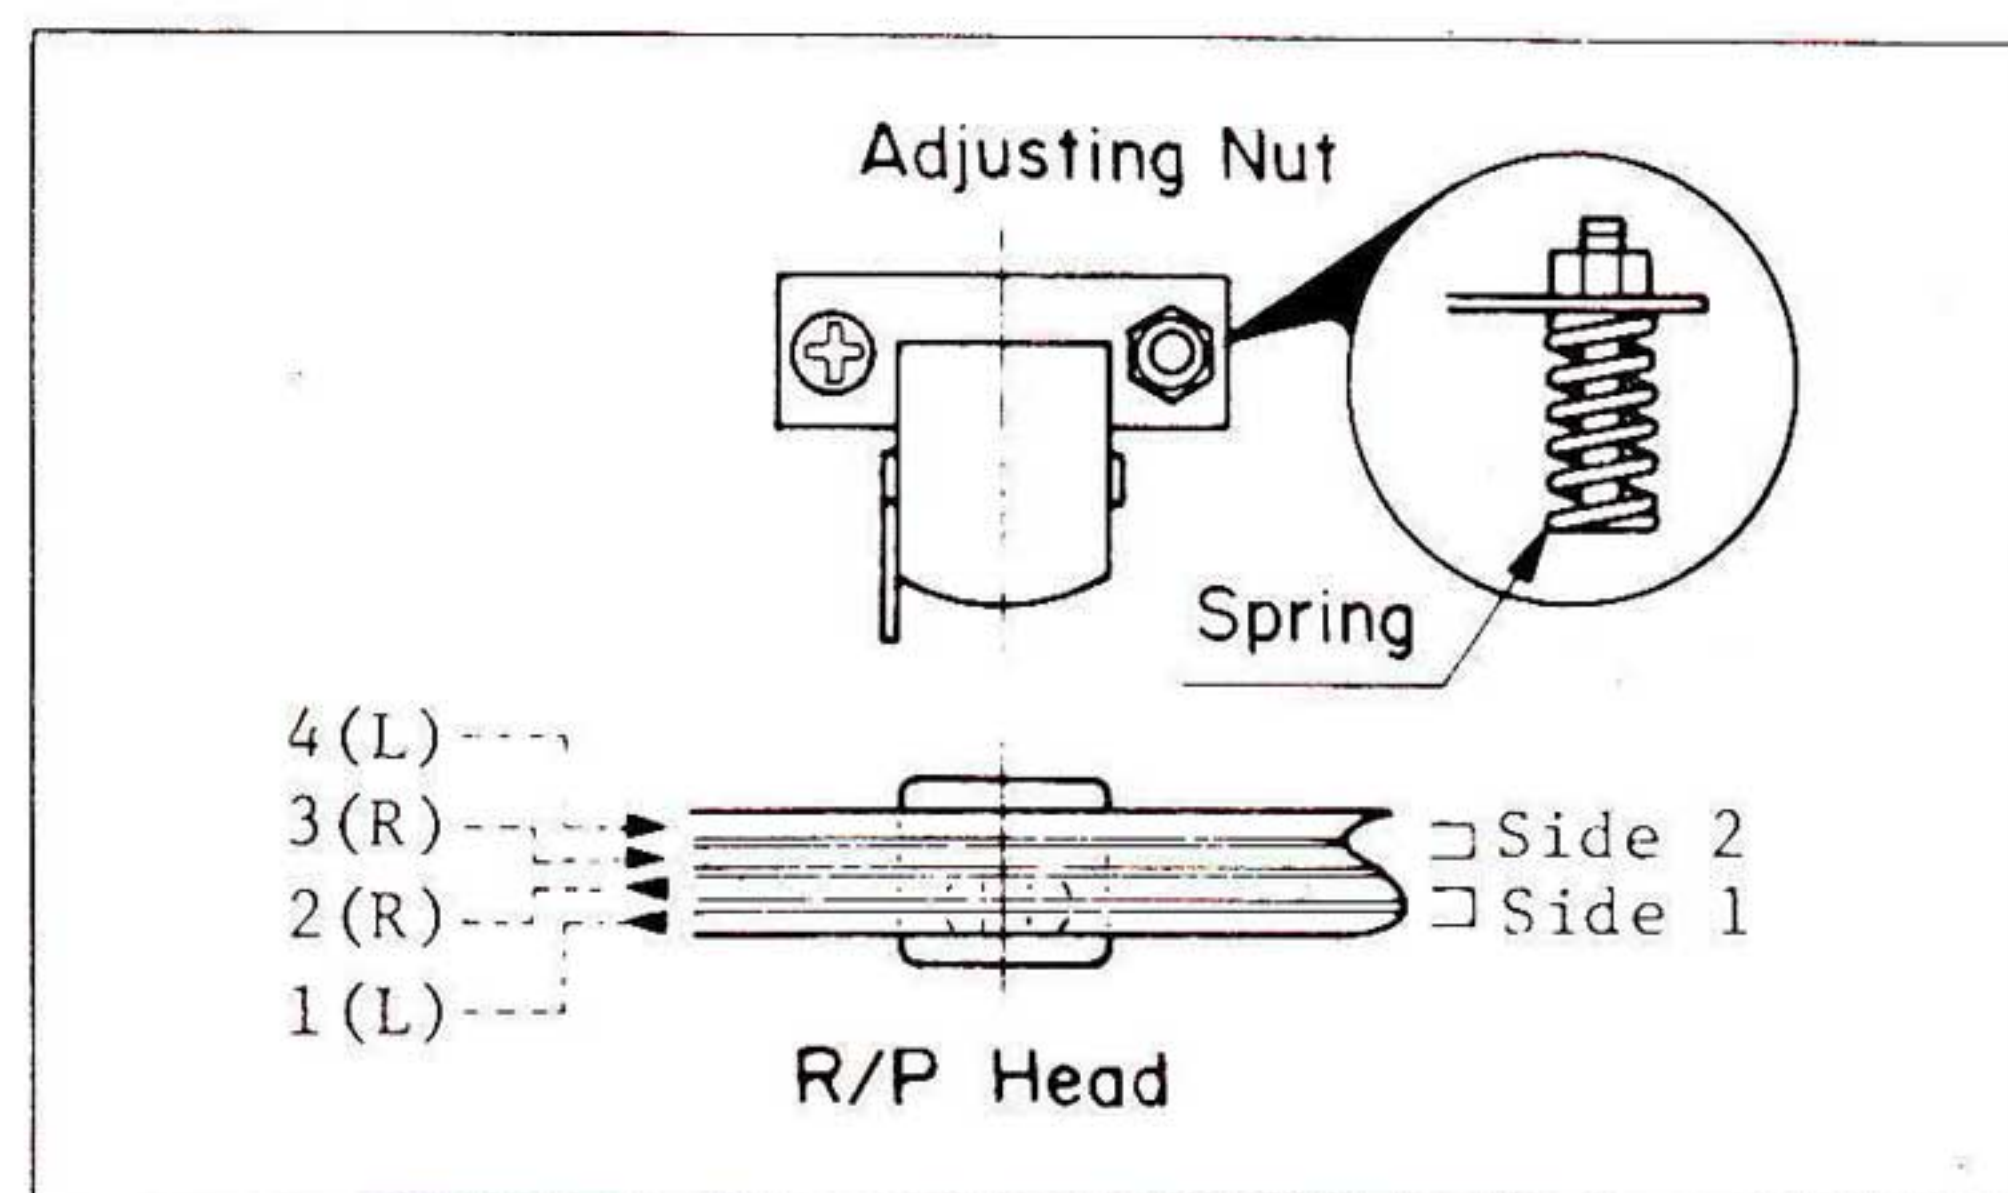
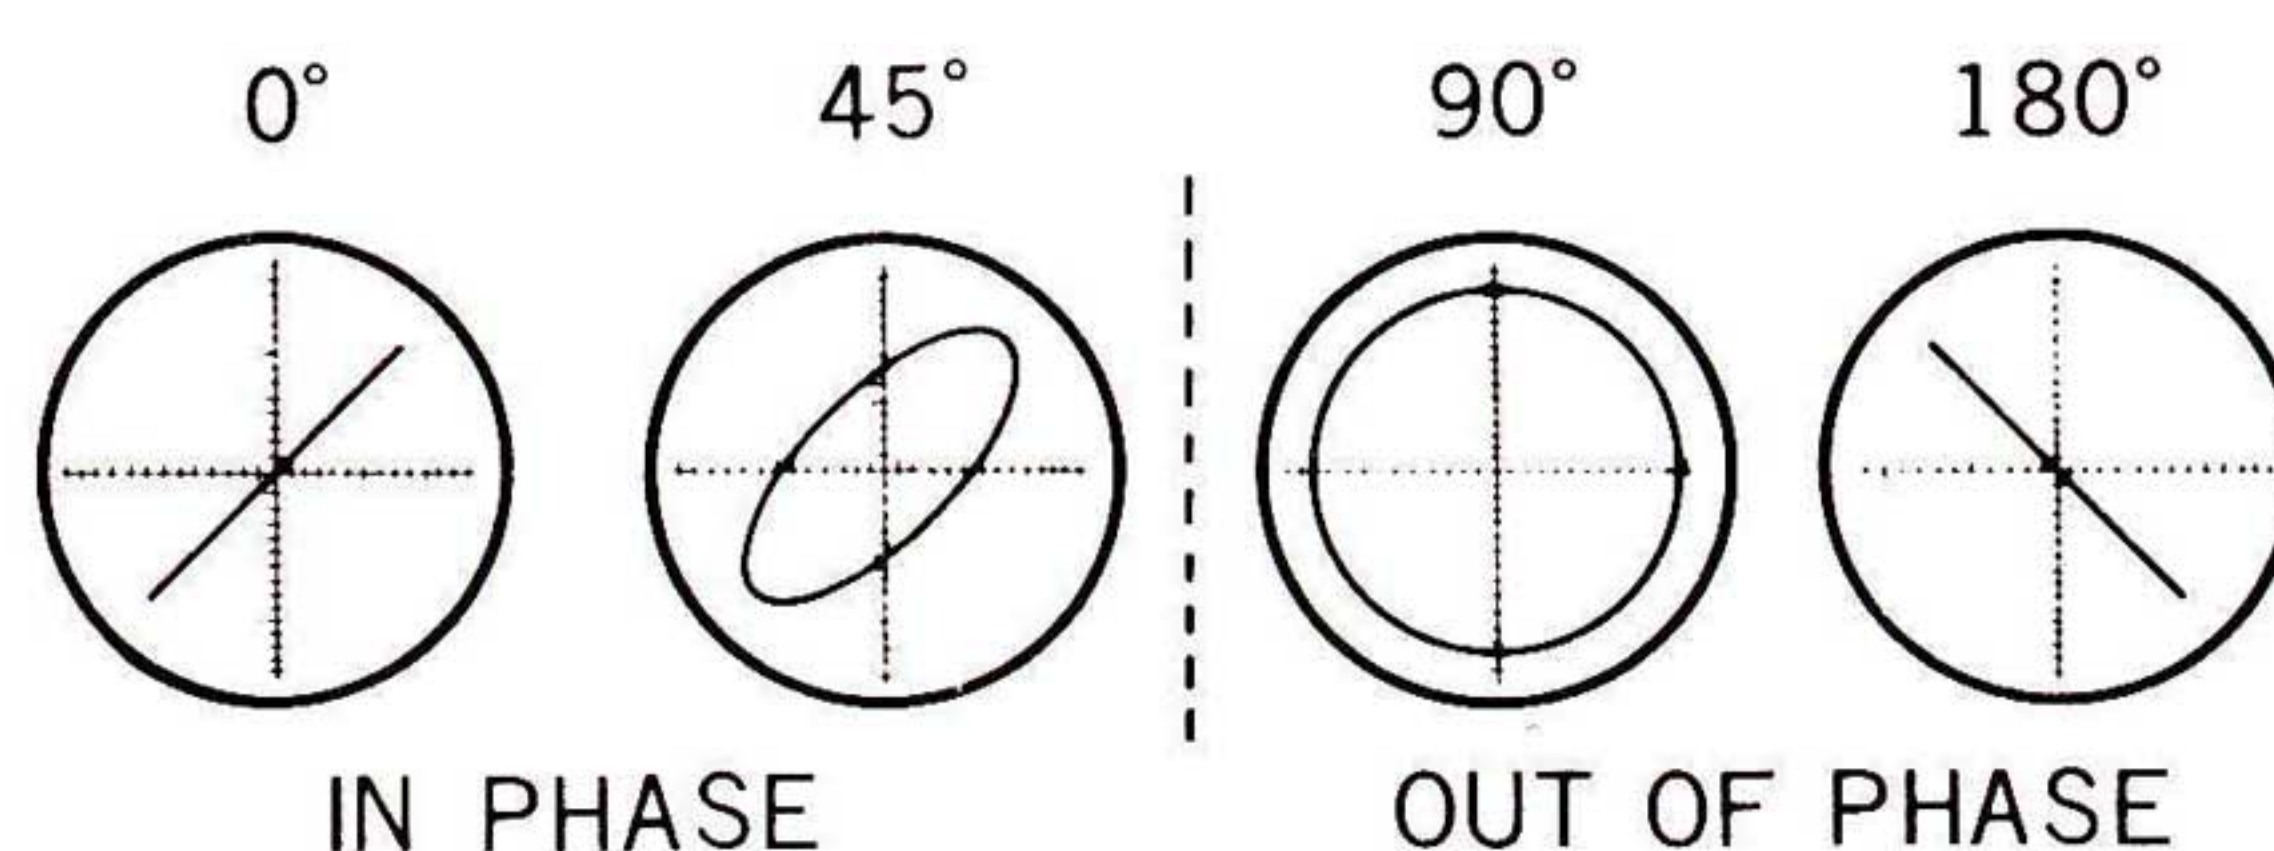

Fig. 5-7 Head Azimuth Adjustment Location
Fig. 5-8 Confirming Phase Relationship
3. Adjust the azimuth adjusting nut for the greatest output level and to get the two output channels within 45° of each other. See Fig. 5-7 and Fig. 5-8.